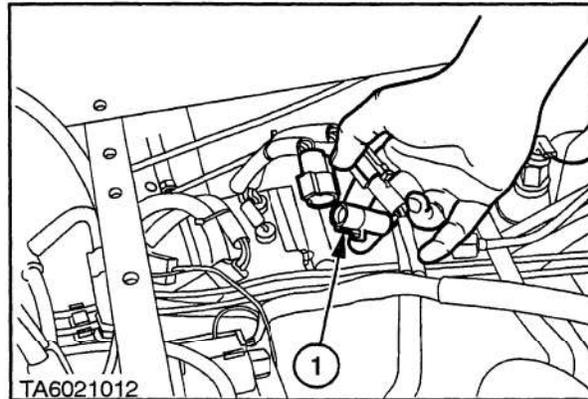

Figure 4-4-10
(iv) Disconnect a range switch connector and install Special Tool FNH00875 (bypass connector) into the harness, (1) Figure 4-4-10.